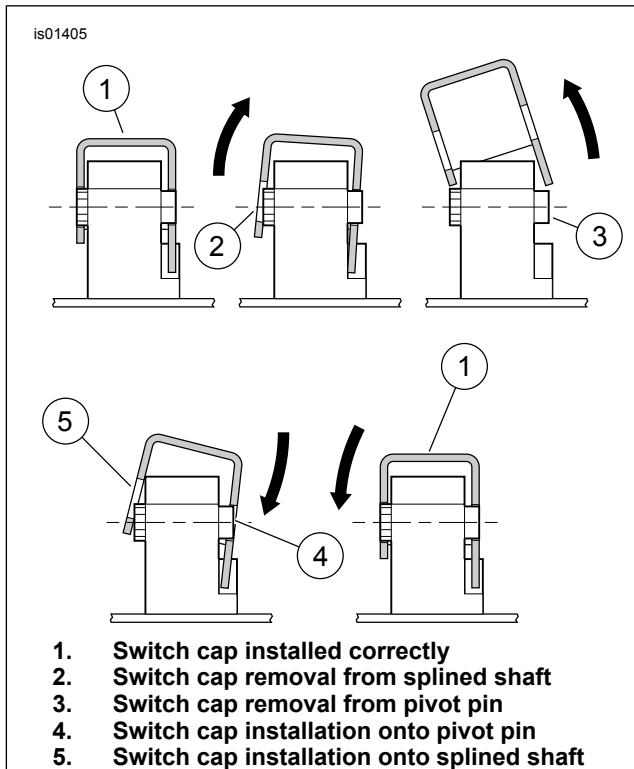
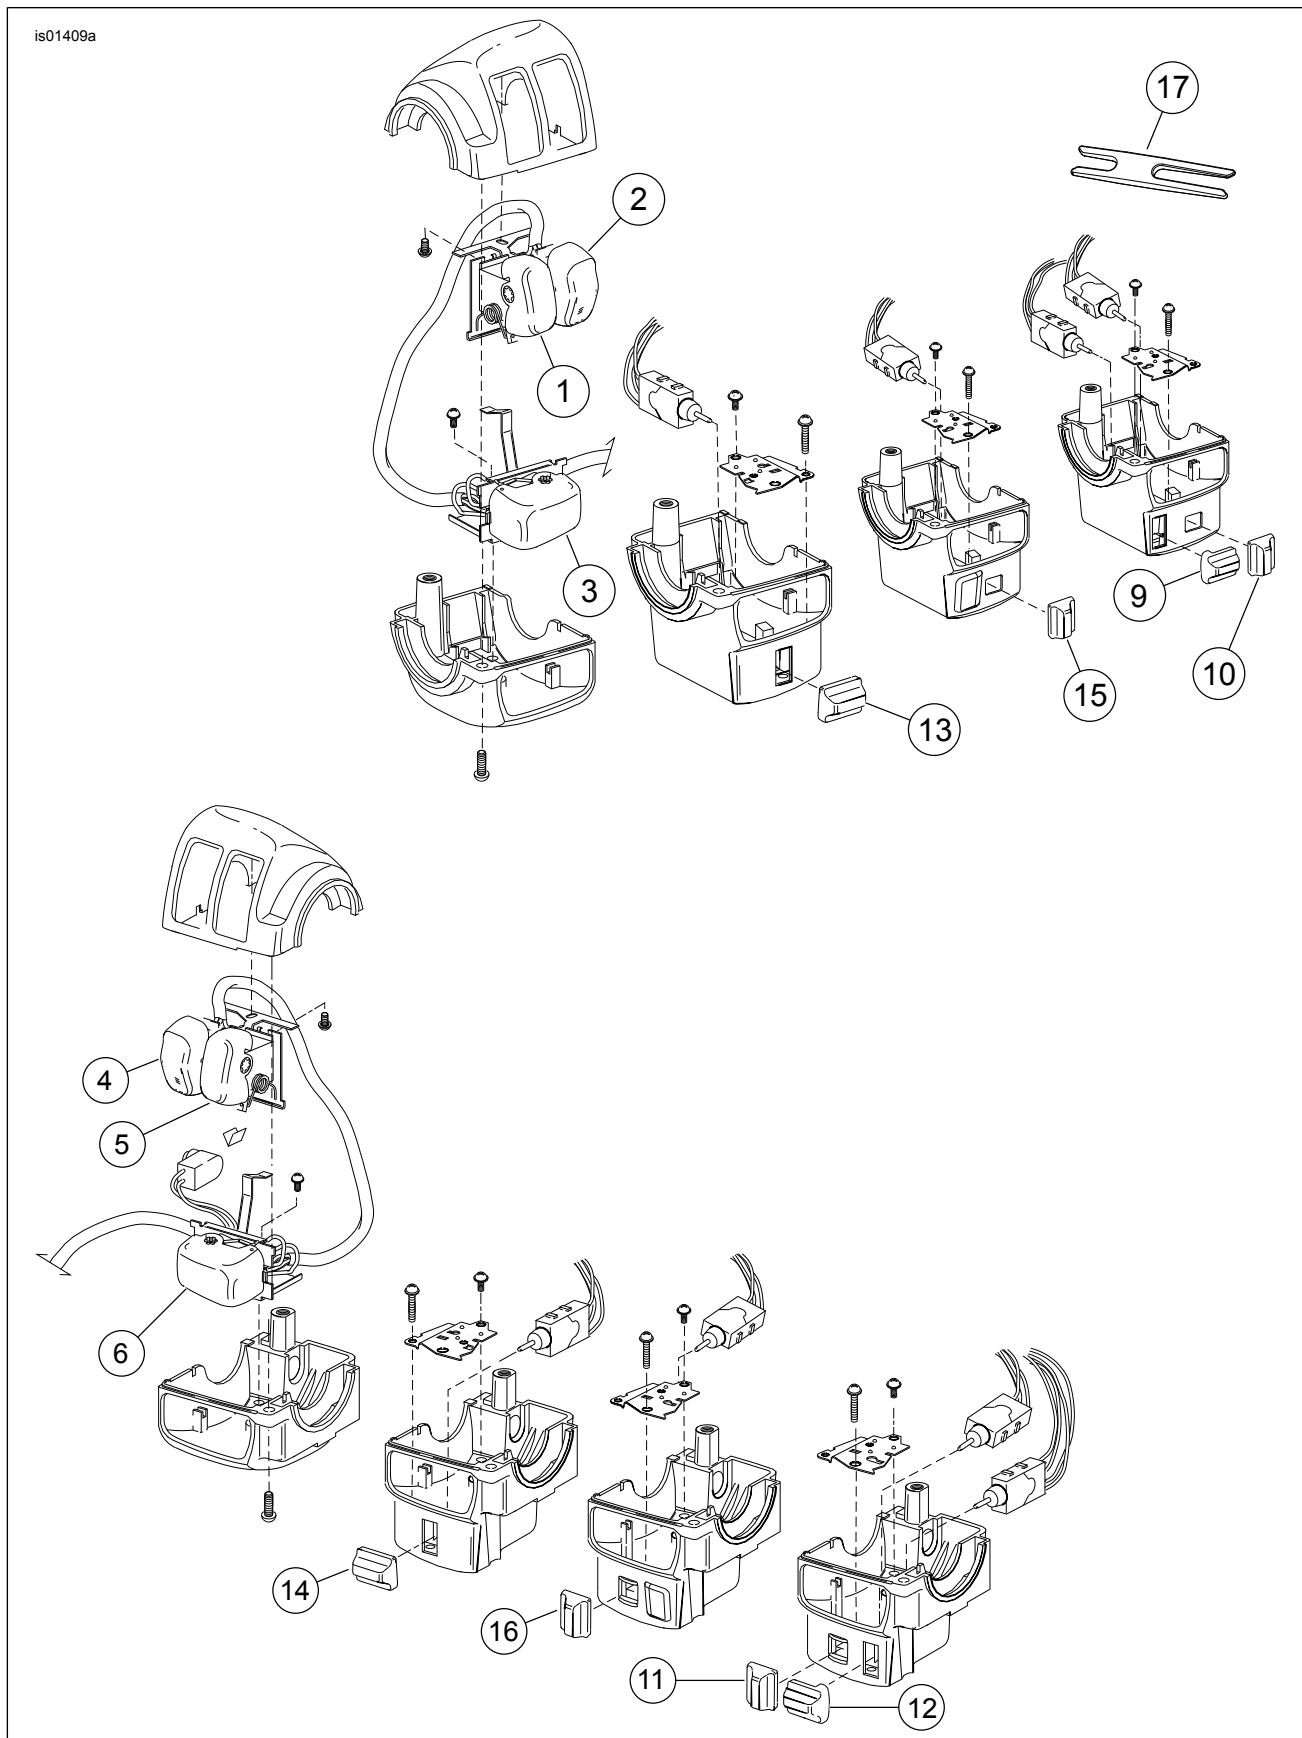

Figure 1. Switch Cap Removal and Replacement
Figure 5. Service Parts: chrome Handlebar Switch Caps
See Figure 5 and Table 2.
2. See Figure 1 and Figure 5. Carefully pry stock black switch cap up off the splined actuator shaft (2) on left side of switch.
- See Figure 5. Select proper chrome replacement switch cap from kit.
- See Figure 1. Place cap onto switch, angling the hole on right side over pivot pin (4) on switch.
- Carefully press switch cap down onto splined actuator shaft (5), rocking and moving the cap until shaft snaps into place in splined hole.
- See Figure 1 and Figure 5. Carefully pry stock black switch cap up off the splined actuator shaft (2) on switch.
- Pry the switch cap up and away from pivot pin (3) on switch, and remove cap.
- See Figure 1. Place cap onto switch, angling the hole on top over pivot pin (4) on switch.
- Carefully press switch cap onto splined actuator shaft (5), rocking and moving the cap until shaft snaps into place in splined hole.
- See Figure 5. Select proper chrome replacement switch cap from kit, then slide the cap onto the shaft.